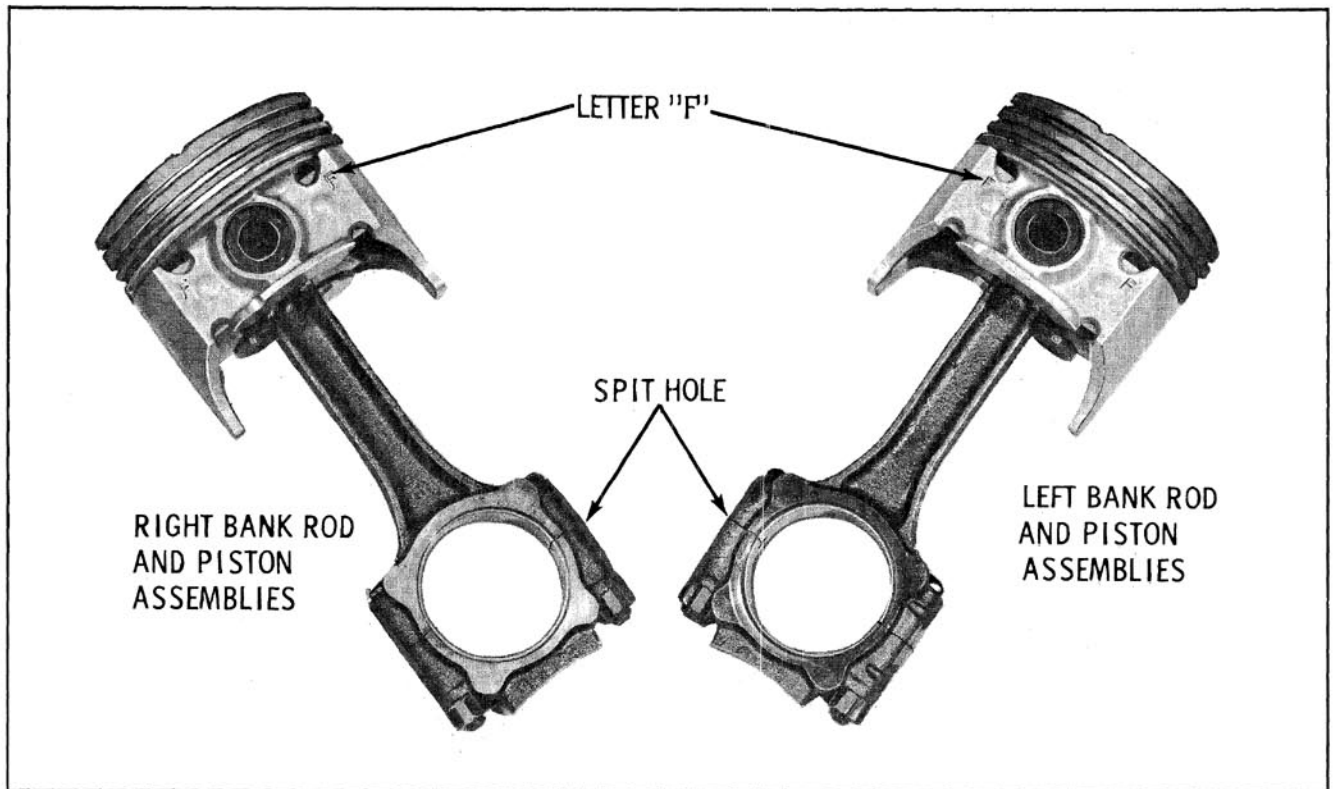

Fig. 3-89 Piston and Connecting Rod Assembly
2. Place piston on Tool BT-6408-1 with letter "F" facing up. Refer to Fig. 3-89 for correct rod and piston assembly.